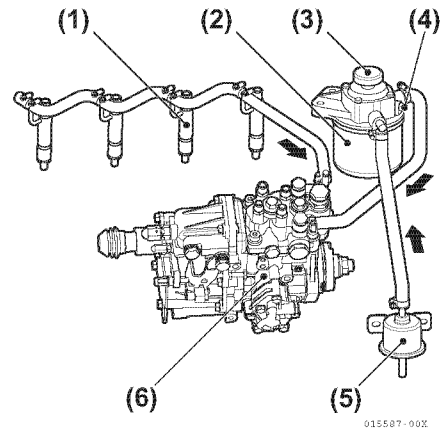

Figure 3-42
3. Loosen the air bleeding bolt (**Figure 3-42, (4)**) of the fuel filter by turning it 2 or 3 turns.